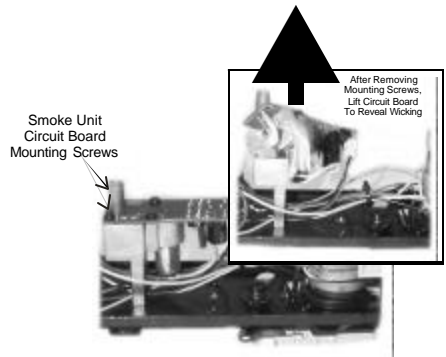

Figure 2: Inspecting The Smoke Unit Wicking
**CAUTION:** *Operating the engine without smoke fluid and with the smoke unit switch in the ON position can damage your smoke unit wick, causing the wick to become hard, blackened and unabsorbant around the heating element. When this occurs, it may be difficult for the wick to soak up the smoke fluid resulting in poor or no smoke output. If that occurs, we recommend that you inspect and/or replace the wick taking care to not run the engine without fluid in the future. You can inspect the wick to see if it needs replacement by removing the smoke unit circuit board from the smoke unit body as seen in Fig.2. After removing the circuit board screws lift the circuit board away and inspect the wick. If the wick is darkly discolored and hard, it should be replaced.*